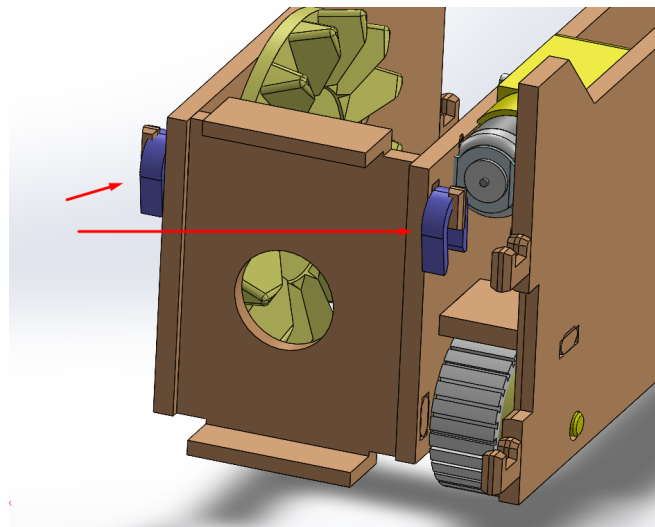

FIGURE 5
STEP 5: In this fifth step we take the result from **STEP 4** and use two pinners which are numbered 23, the thinner version of the pinners should be used here as seen in figure 5.